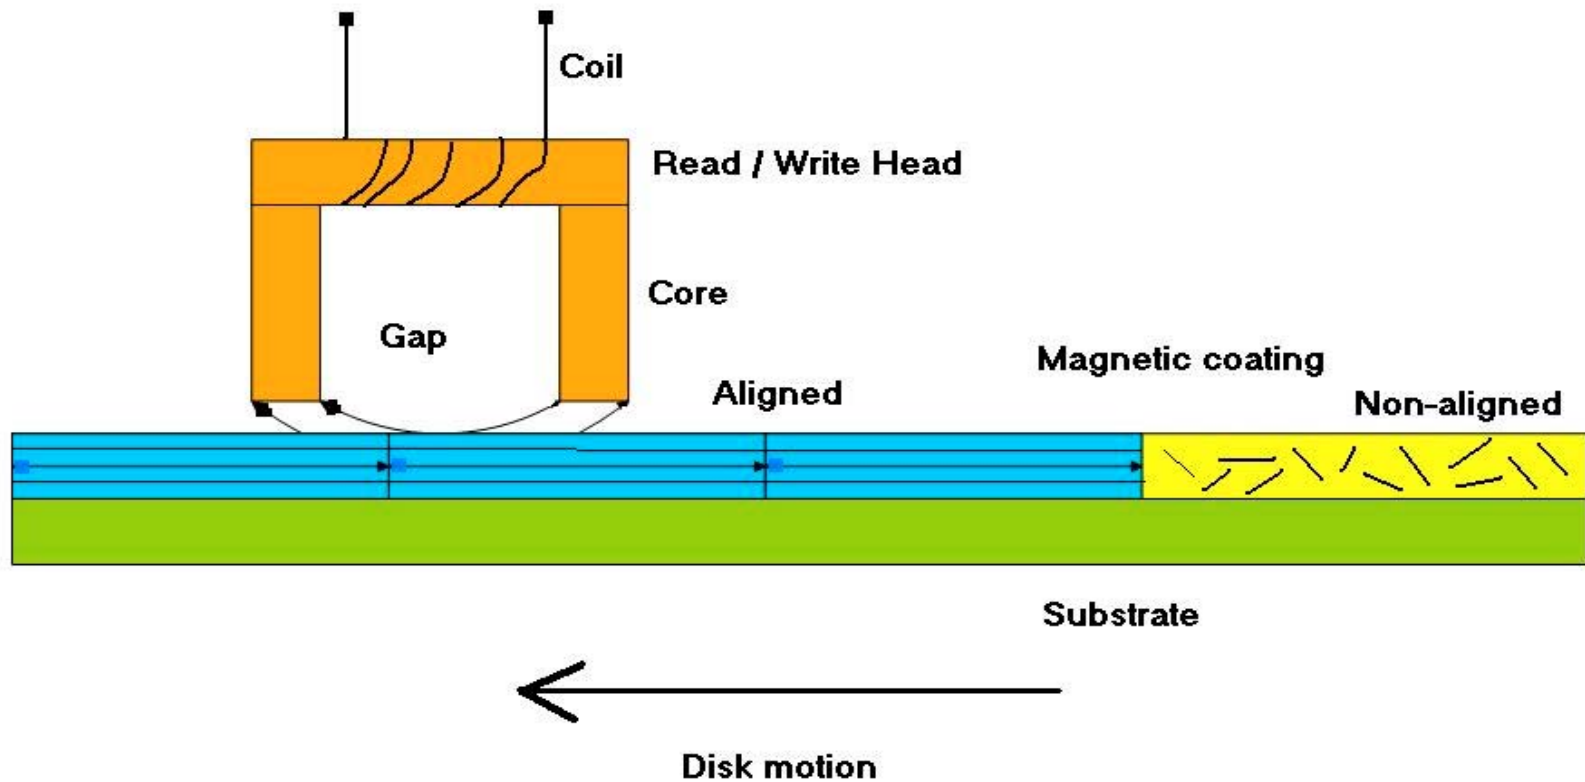

Figure 4: Magnetic disk surface and read/write head.
- Read / write heads ‘fly’ close to but not touching the surface of the disk (Figure 4).